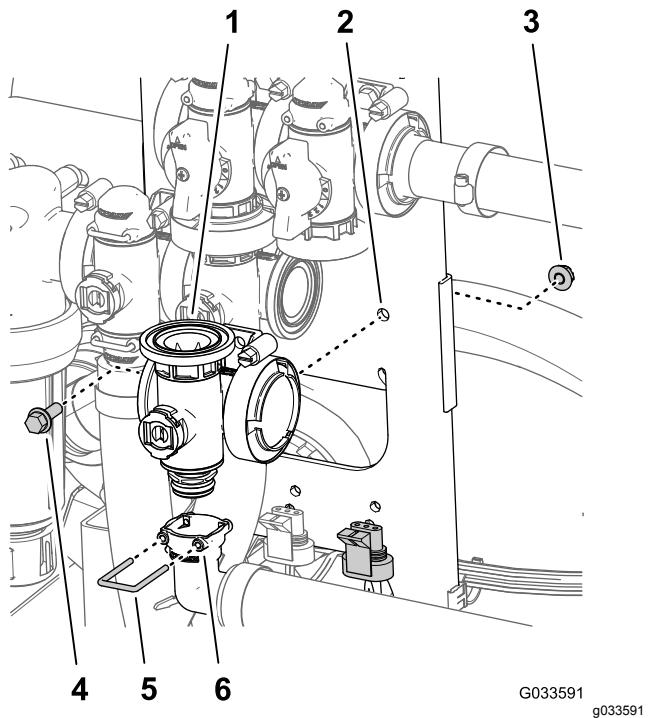

Figure 103
2. Remove the retainer that secure the 90° outlet fitting to the manifold coupling for the master-boom valve (Figure 103).
3. Remove the flanged-head bolt (1/4 x 3/4 inch) and flanged locknut (1/4 inch) that secure the master-boom valve to the valve mount and remove the valve manifold from the machine (Figure 103).